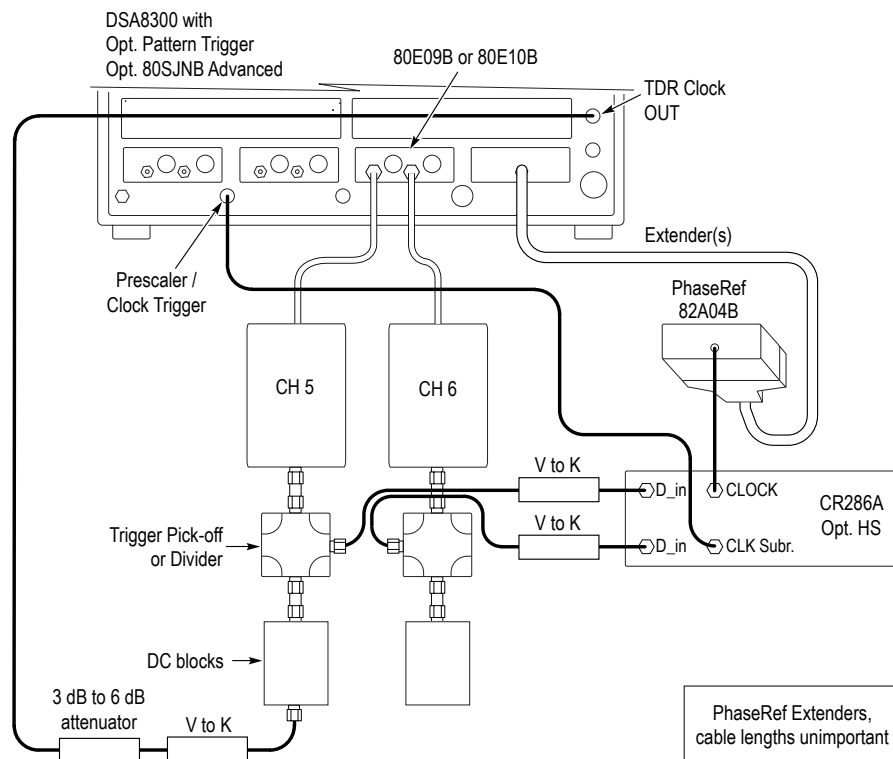

Figure 8. System Setup for Vertical Calibration, step C.
- Connect the input to the Oscilloscope Channel 5 directly⁷ via cable to the “TDR Clock OUT” SMA on the front panel of the oscilloscope. See Figure 8.
⁷ directly: there should be no DC block, no divider or “T”-pick-off. The V-connector (aka 1.85mm connector) to K/SMA adapter should be used as needed; see “Figure 8 System Setup for Vertical Calibration, step A”, and see Annex on Pg. 5.
- Connect the oscilloscope's C5 if the DC Block (if using the DC Block) and with the Trigger Pick-off T (if using the Trigger Pick-off T) as in Figure 8 .